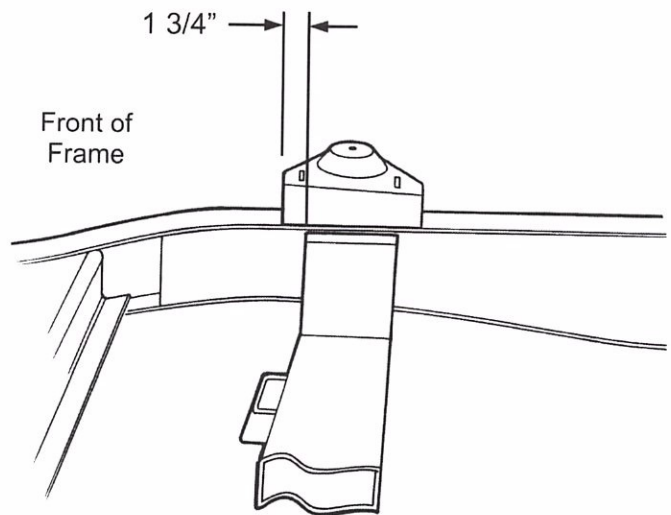

Figure 5
7. Next are the spring towers. They sit on top of the frame rails, and are located $1\frac{3}{4}$ " forward of the crossmember, as shown in Figure 5. Clamp in place, double check your dimensions, then weld all around, including the gusset flanges on the sides of the rails. For added strength, you can also weld the inside of the gusset flanges.